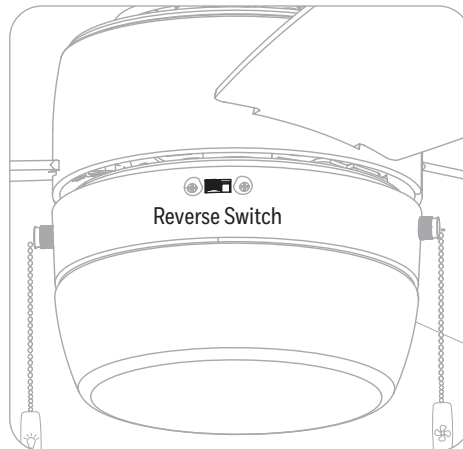

Figure 6.2
- Use the reverse switch to optimize your fan for seasonal performance. **In warmer weather**, push the reverse switch left which results in downward airflow creating a wind chill effect. **In cooler weather**, push the reverse switch right which results in upward airflow that will help move hot air of the ceiling (Figure 6.2).